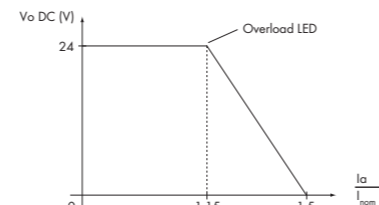

Fig. 4: Output characteristics
The equipment's output is electronically protected from overload and short circuits. The output voltage for an output current in the dimensional range of 1.15 x I is reduced (see Fig. 4).
2.5 A (see Fig. 4)